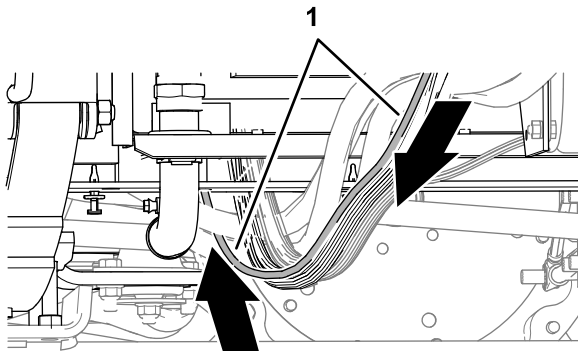

**Figure 161**
- At the bottom of the machine, route the modem data cable rearward, along the wire harness of the machine (Figure 161).